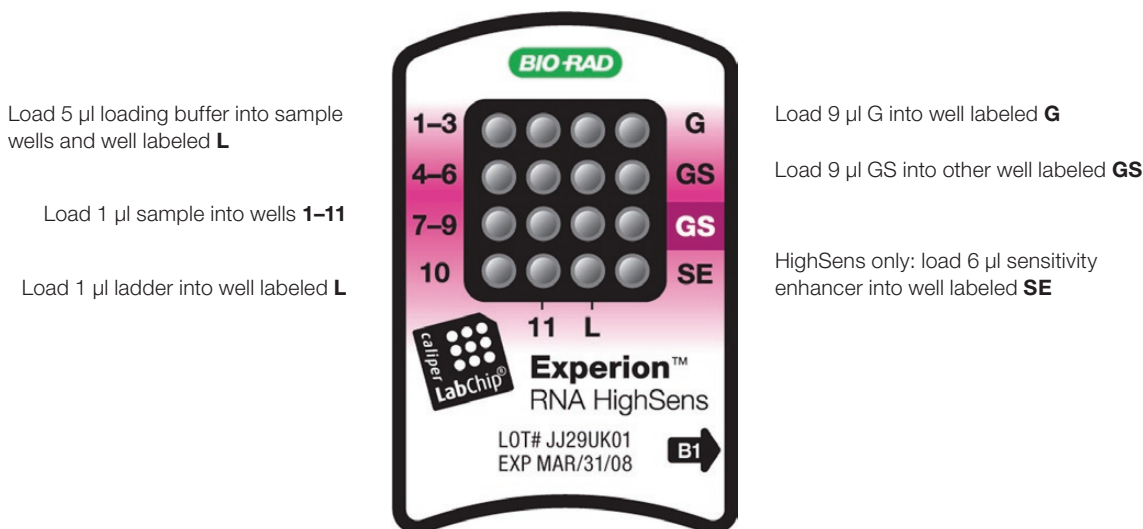

Fig. 3.2. Experion RNA HighSens chip. Wells for loading GS, samples, and ladder are indicated.
1. Pipet 9  $\mu$ l GS into the other well labeled **GS** (Figure 3.2).
2. Pipet 9  $\mu$ l filtered gel (G) into the well labeled **G**.